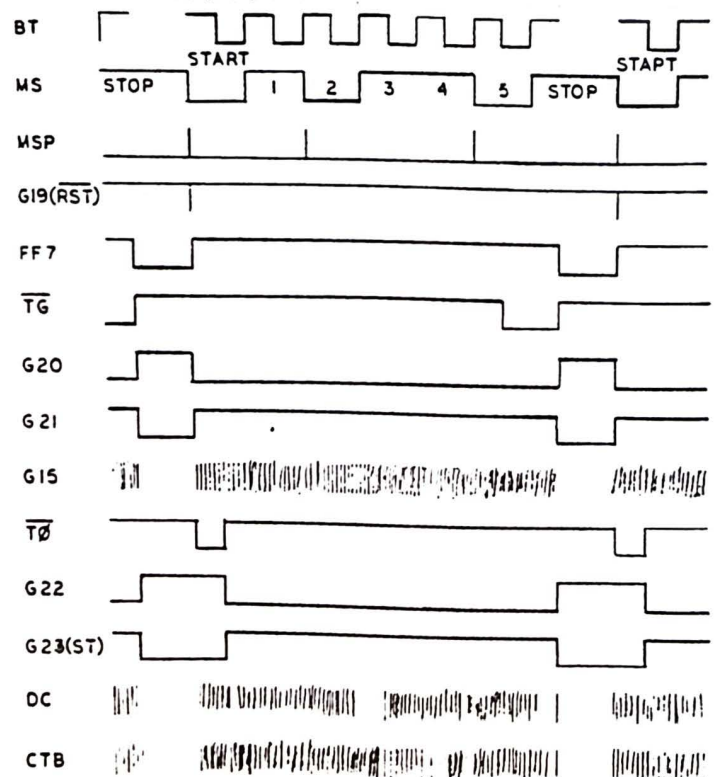

Fig. 16 - Sync Network Timing, Start-Stop
### Start-Stop (Fig. 16 and 31)
3.40 When the data signal under test is start-stop (Fig. 16), the start-stop sync network inhibits DC (at G15) shortly after the first transition of each stop element of MS and enables DC (at G15) at the first transition of each start element. This function synchronizes DC with the first transition of each start element of data signal MS.
### Reset Signal RST (Fig. 16 and 31)
Synchronization (Fig. 16 and 31)
Stop Transfer Signal ST (Fig. 16 and 31)